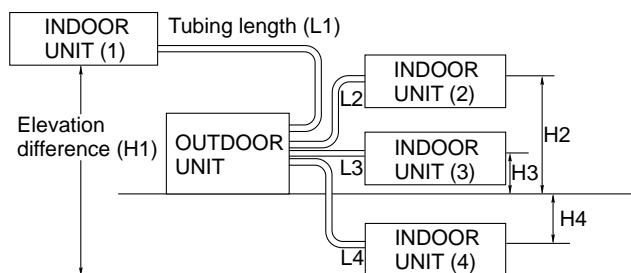

Fig. 1
- install the unit within the maximum elevation difference (H1, H2, H3, H4) above or below the outdoor unit and within a total tubing length (L1+L2+L3+L4) from the outdoor unit as detailed in Table 1 and Fig. 1.